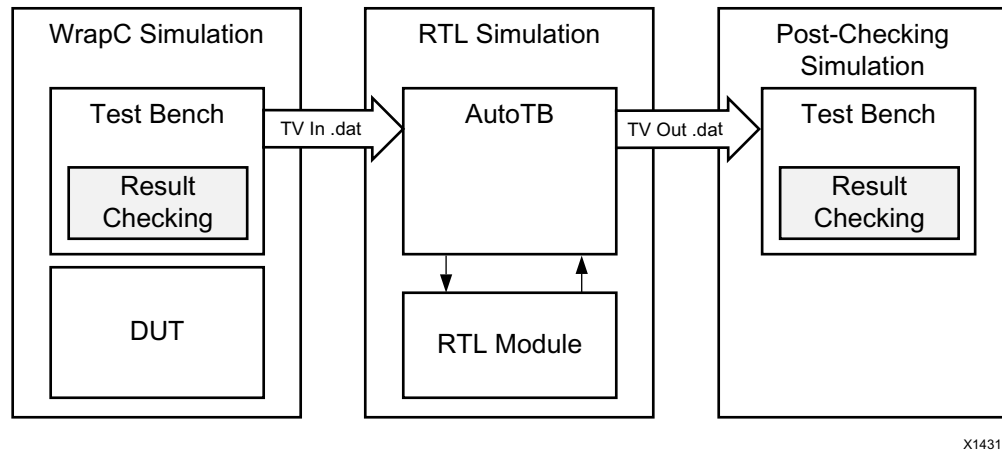

Figure 1-74: **RTL Verification Flow**
C/RTL co-simulation uses the C test bench to automatically verify the RTL design. The verification process consists of three phases, shown in Figure 1-74.
- **Reduce Disk Space:** The flow shown Figure 1-74 in saves the results for all transactions before executing RTL simulation. In some cases, this can result in large data files. The `reduce_diskspace` option can be used to execute one transaction at a time and reduce the amount of disk space required for the file. If the function is executed N times in the C test bench, the `reduce_diskspace` option ensure N separate RTL simulations are performed. This causes the simulation to run slower.